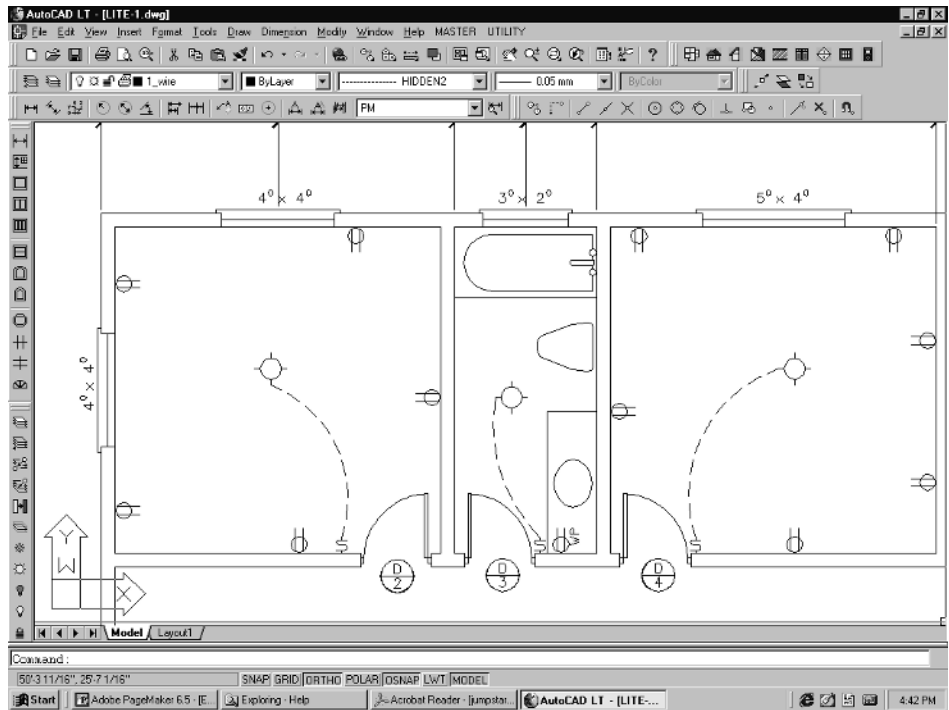

Figure 6-45
5. To add the wiring, use the Arc command to draw the wires. Set your Osnaps to Endpoint, then just pick the start, middle, and endpoints of the arc. You can draw the wiring in a house in a matter of minutes using this method. You can change the linetype of the wires to dashed or hidden if you wish, by selecting the wires, picking the linetype from the Properties or Object Properties toolbar, and changing them to the new linetype. Note the wiring drawn in Figure 6-45.